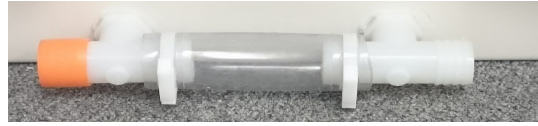

Fig 1.
1) **EXCEL NE:** The safety drain assembly (Fig. 1), has a cap on one end, and the other end will be uncapped to facilitate the connection of the drain hose (Included with NE unit). The cap can be removed, and placed on either side of the safety drain assembly as applicable, for convenience of installation.